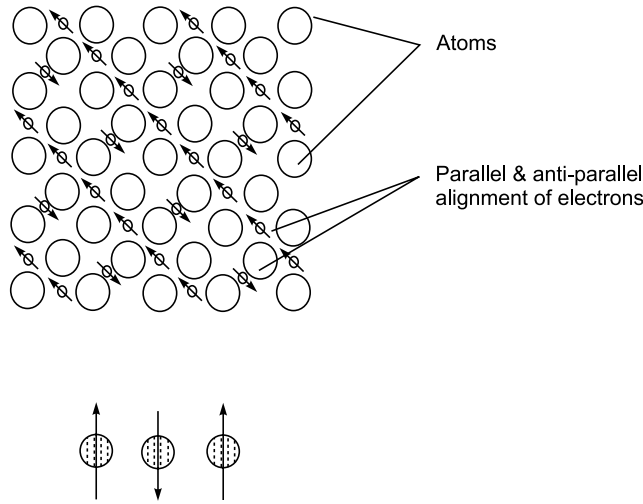

Fig. 4.8 Magnetic moment direction of Ferrimagnetic materials
4. Ferrimagnetic Materials: Ferrimagnetic materials are one which have complex crystal structures than pure elements. These materials retain their magnetization in the absence of applied field like ferromagnetic materials. Similar to antiferromagnetic materials, within the crystal structure of these materials, electron pairs of neighboring element spins like to point in opposite direction. Within these materials the exchange interactions leads to parallel alignment of atoms in some of the crystal lattice sites and anti-parallel alignment of others (Figure 4.8).